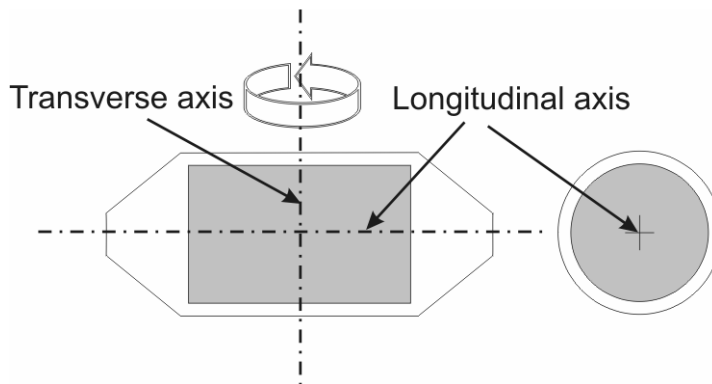

Figure 6: **KOMET** stirring bar.
**Thermo Scientific** has developed a new magnetic stirring bar **KOMET** (Figure 6). It contains a high-quality super-strong samarium-cobalt magnet. KOMET shows a strong magnetic force. The stronger attraction to the magnetic alternating field provides the stirring bar with very efficient stirring properties. Even if there are greater distances (e.g. in high measuring cylinders) the stirring force will be maintained. The stability of the stirring bar will not be impaired if the vessel has a curved bottom. The strong magnetic coupling in samarium-cobalt magnets will also increase friction. The standard design of the KOMET magnetic stirring bar is therefore unsuitable for stirring liquids containing particulate matter (such as mud) or for stirring in vessels with a rough interior surface. Some of the KOMET stirring bars are specially fitted with a wear-resistant glide ring for use under excruciating circumstances, such as when stirring vessels feature rough plastic or stainless-steel bottoms or if the media to be stirred contain solids (Figure Fehler! Verweisquelle konnte nicht gefunden werden.7).